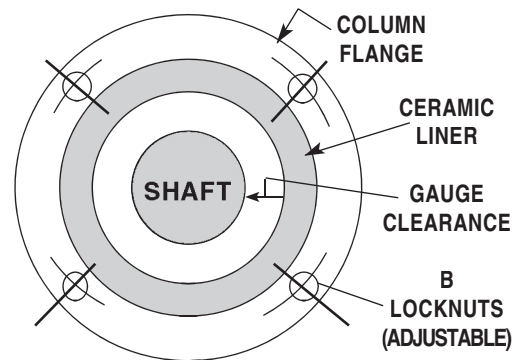

FIGURE 1
3. Using an inside dividers, gauge clearance between O.D. of shaft and I.D. of ceramic liner. Equalize clearance by adjusting opposite lock nuts B. Refer to Figure 1. DO NOT MAKE ANY ADJUSTMENT TO NYLON LOCK NUTS A.